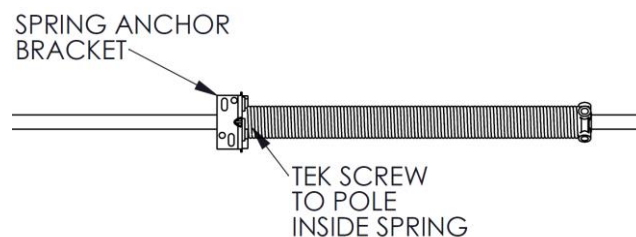

Figure 22
16. Single spring doors need a bolt or screw installed in the pole next to the spring anchor bracket on each side to stop the pole moving sideways. (Figure 22)